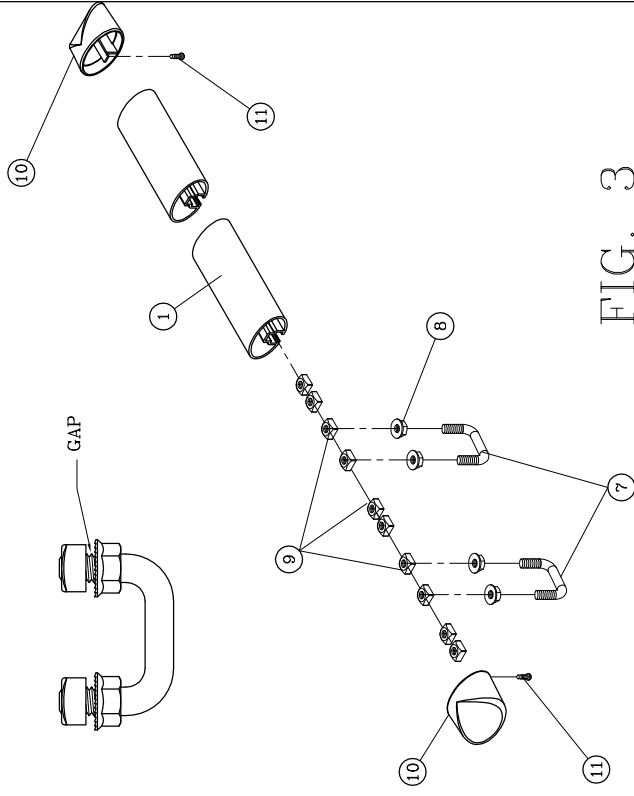

FIG. 3
- 3.1 Assemble the u-bolts (item #7) with the serrated flange nuts (item #8), and square nuts (item #9) as shown in **fig 3**. Make sure there is a gap between the (2) nuts.
- 3.2 Load each bed rail with the appropriate number of square headed nuts (item #9) and U-bolt assemblies as shown in **fig 3**. Make sure that you place (2) square nuts in front of the forward u-bolt assembly, (2) square nuts between the U-bolt assemblies, and (2) square nuts behind the back U-bolt Assembly.